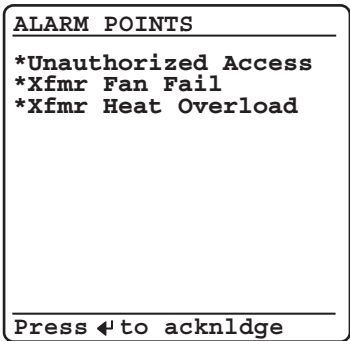

Figure 14 Sample Alarm Points Screen
*Figure 14* shows a sample alarm points screen. The relay can display as many as 66 alarm points. The relay automatically displays new alarm points while in manual-scrolling mode and in autoscrolling mode. Assign the alarm point messages by using SER Points settings. The asterisk next to the alarm point indicates an active alarm. Use the front-panel navigation pushbuttons to clear inactive alarms.